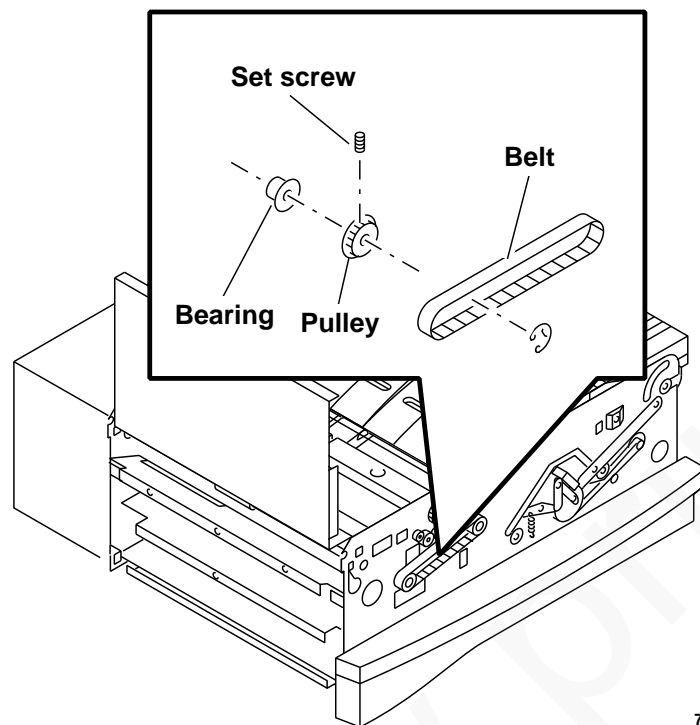

Figure 18. Pulley and bearing removal
- e. Loosen set screw in pulley (Figure 18), and remove pulley.